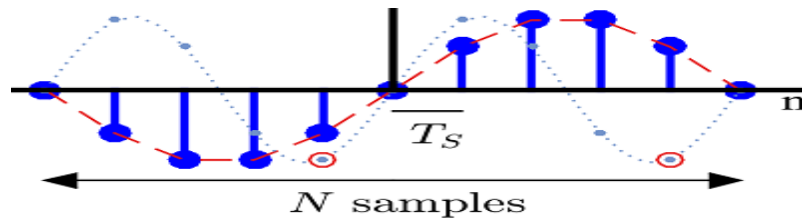

Figure 3: Discrete sin-wave signal sampled at T_s .
Figure 3 shows how to calculate the sampling time (T_s) from a sampled signal, where N is the number of samples in one period and signal period (T) measured in second.